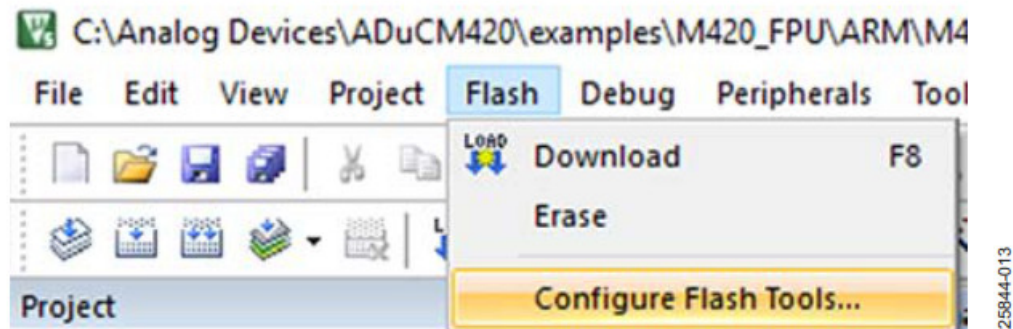

Figure 26. Keil **Flash** Dropdown Menu Options
1. After opening the Keil IDE, click the Flash dropdown menu, and select the Configure Flash Tools option (see Figure 26).